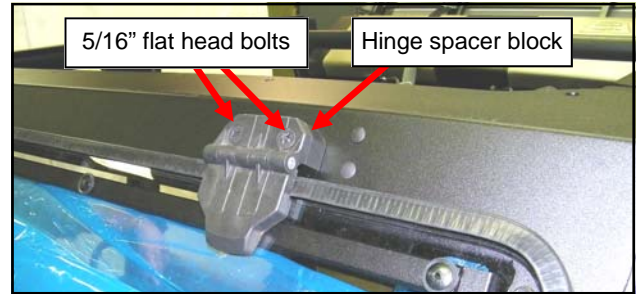

Fig. 7.1a (Windshield, outside)
7.1 Per figures 7.1a and b, place a hinge spacer block onto the windshield hinge and two flat head 5/16" bolts through each hinge. **Note: for glass windshields, use the thinner 5/8" thick hinge spacer blocks found in the windshield box. For polycarbonate windshields, use the thicker 3/4" thick hinge spacer blocks found in the hardware box.** Place the windshield onto the windshield support with the bolts through the slots and secure with 5/16" nuts.